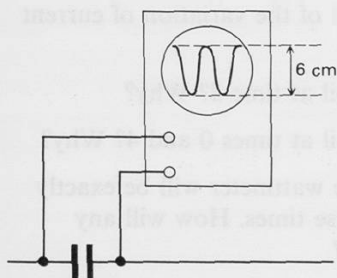

Figure H104
52(L) In figure H104 the oscilloscope's Y-sensitivity is set at 1 V cm^{-1} .